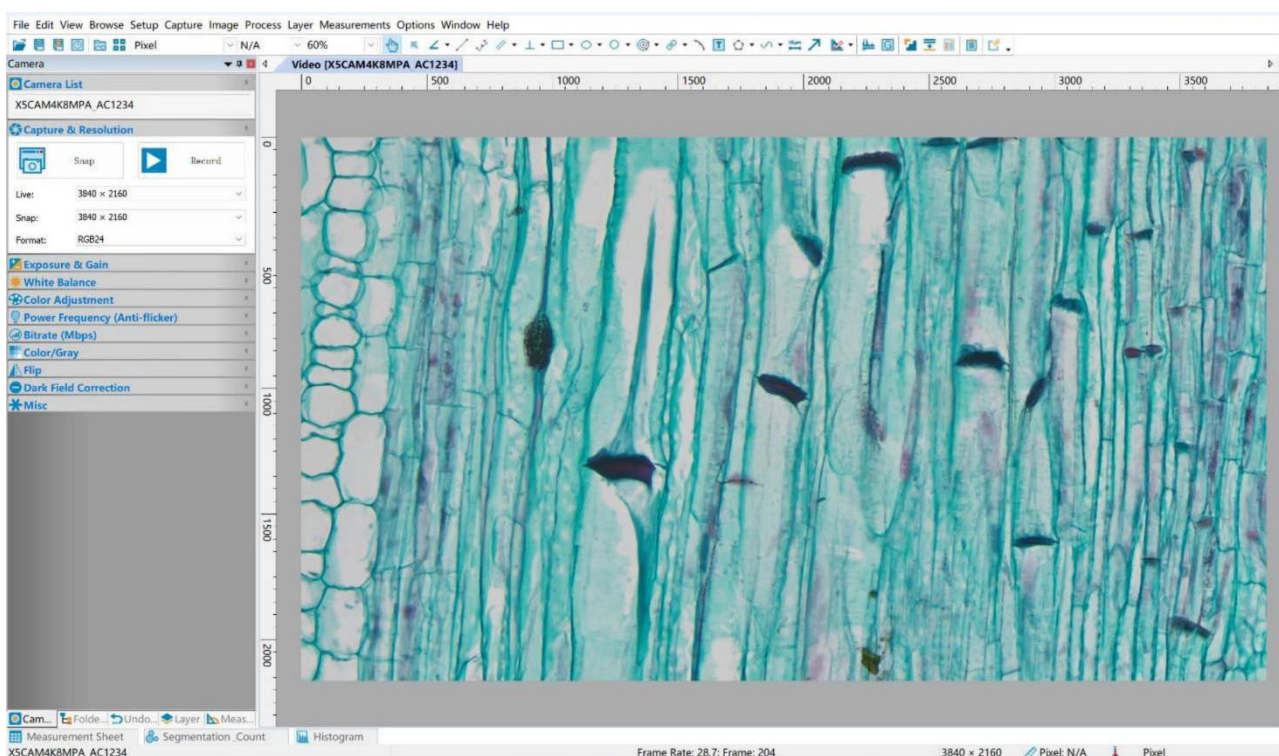

Figure 9 ALTRAvue and ALTRA PathoPix 4K Camera in WiFi AP Mode
6. Start ALTRAvue / ALTRAvue Lite software or AccuView App and check the configuration. Normally, the active ALTRA PathoPix 4K cameras will be automatically recognized. The live image of each camera is shown in Figure 9. For the display, the Camera List group is used in ALTRAvue / ALTRAvue Lite software, and the Camera thumbnail is used in AccuView App.